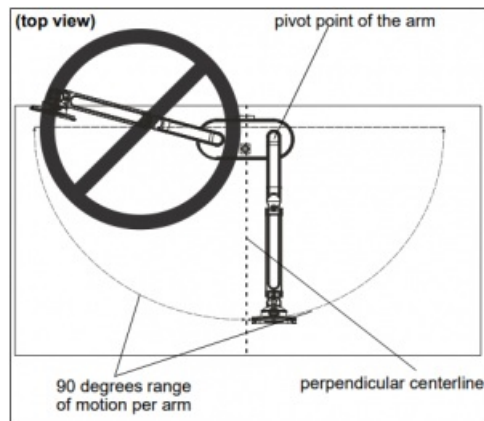

Figure 17
1. Adjust arm angles as desired within a 90 degree range from the pivot point of the arm and a perpendicular centerline of mount. (See Figure 17)